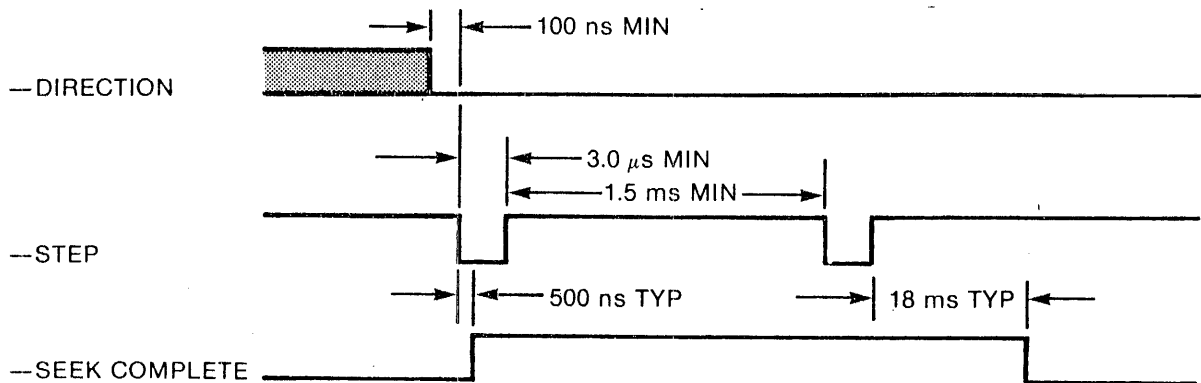

FIGURE 2-3. NORMAL STEP MODE
- a. Normal Step Mode. In this mode, the read/write heads will move at the rate of the incoming step pulses. The minimum time between successive steps is 1.5 ms with a minimum pulse width of 3.0 μ s (see figure 2-3).